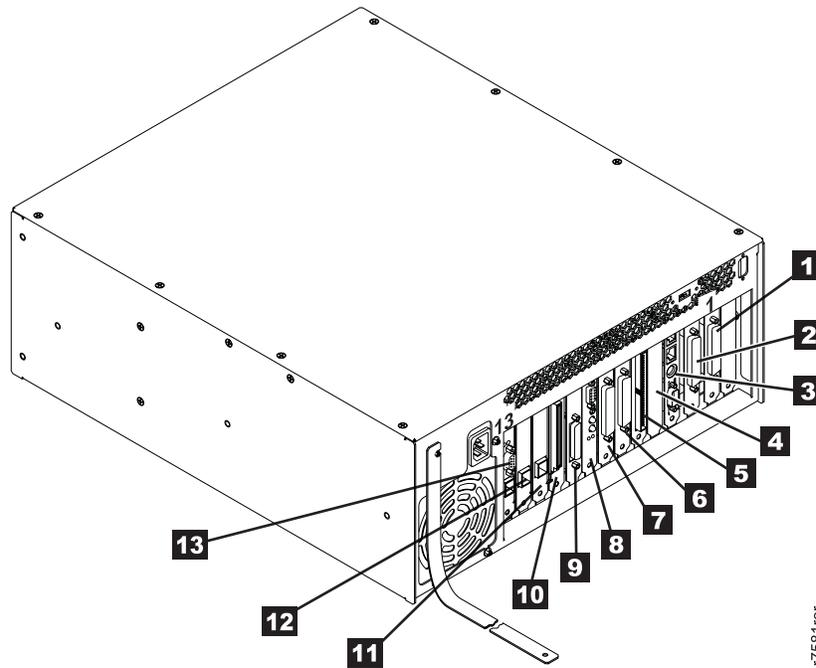

Figure 4. Model 7581 Industrial Computer System Unit
Refer to Figure 1, Figure 2 on page 5, Figure 3 on page 5, and Figure 4 on page 6 to verify if you have the PS/Value Point System Unit; the Model 7585 Industrial Computer System Unit; the Model 7588 Industrial Computer System Unit; or the Model 7581 Industrial Computer System Unit currently installed.
- d. If you have a Model 7581 Industrial Computer System Unit, do not remove the braided strap. Refer to Figure 4 on page 6 and proceed to step 5.